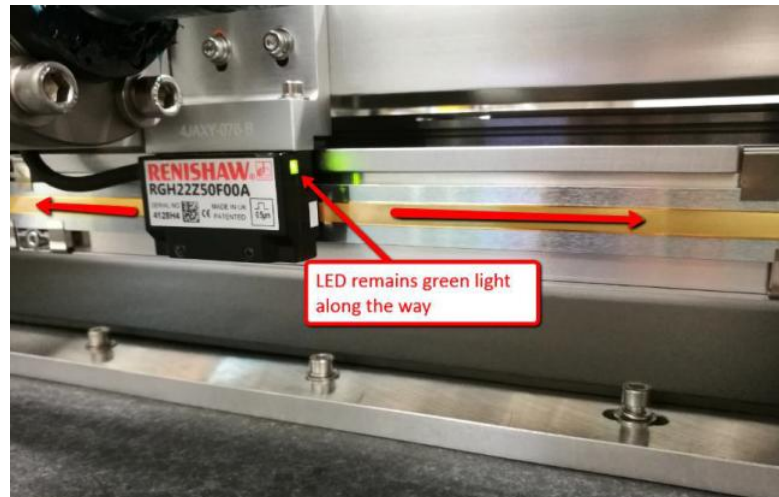

Figure 9 X axis Encoder checking
- Move X-Axis stage to minimum hard stop (left side) and maximum hard stop (right side) . Visual check X-Axis encoder which require green light illuminated along the way as shown in Figure 9.